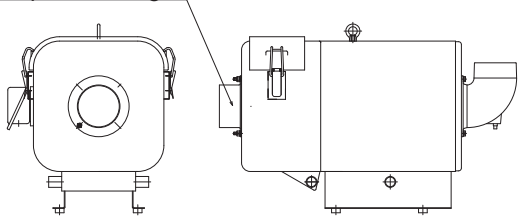

Fig.22. Before installing the fire prevention damper
- ① Remove the bolts which secure the duct companion flange, then remove the duct companion flange and the packing (see Fig.22).